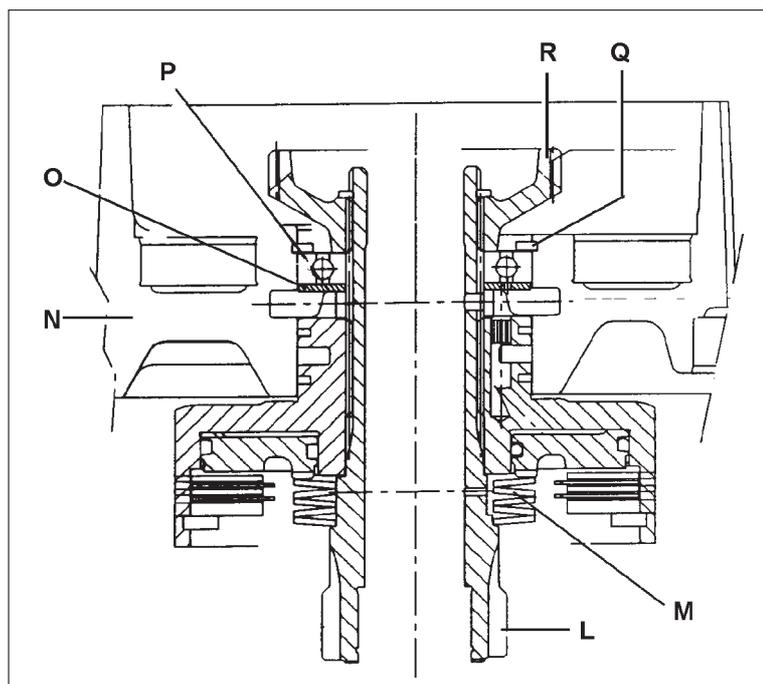

Fig. 9 - Preassembly of parts on MEDIUM shaft.
- Working at the bench, preassemble the MEDIUM shaft **L** p/n 007.6149.0/20 and the Belleville discs **M** p/n 007.6149.0 (Fig. 9).
- Fit the unit to the MEDIUM shaft, while holding the shaft vertical (Fig. 9).
- Fit the oil baffle **O**, the bearing **P** and the circlip **Q** (Fig. 9).